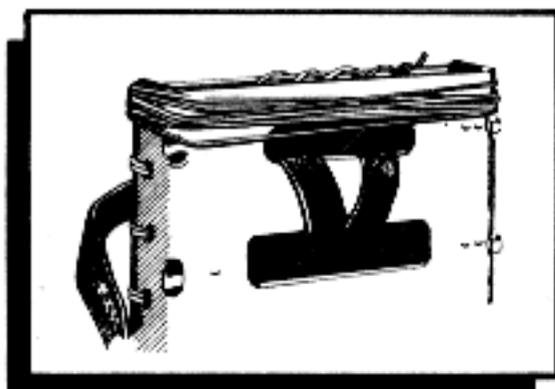

Figure 4-42. Lashing rope wound around top of packboard.
**Lashing Load to the Packboard With Rope.** Attach bulky, nonrigid, or irregular-shaped loads with a lashing rope. Keep the lashing simple; never use two loops when one will do. Use knots that will hold but will not be hard to untie. Lashing by rope is easier to start if a short loop is tied in one end of the rope so that it may be attached to a hook on the packboard frame. When you can, use a bowline knot to form the loop in the end of the rope. Fasten the coil with a knot, or slip the coil between the canvas and the plywood frame. Always keep the lashing rope attached to the packboard. Wind the rope around the top of the packboard when the packboard is not in use (figure 4-42).